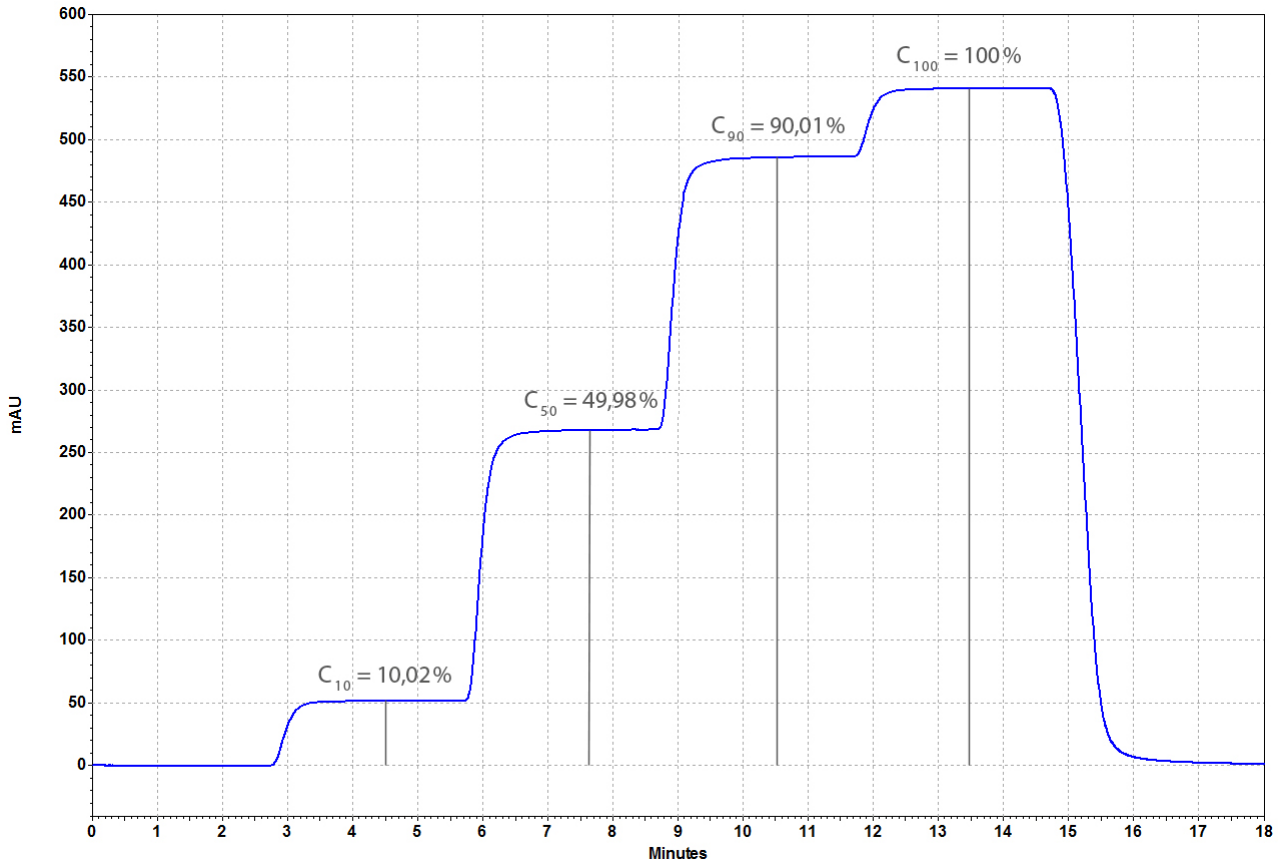

Fig.1 Step gradient with calculated values ( $C_x$ )
1. Calculate the resulting step gradient with the chromatography software (see Fig.1 for an example).